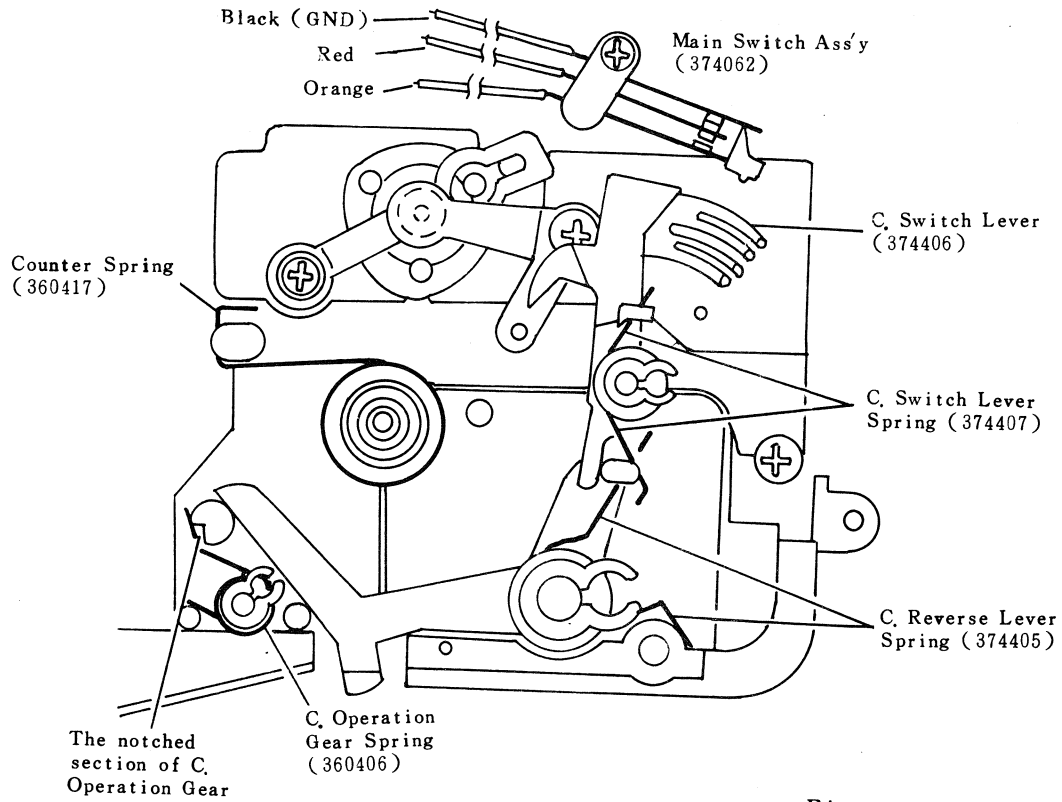

Fig 44
- a) Position the notched section of C. Operation Gear (374403) as shown in (Fig 44).